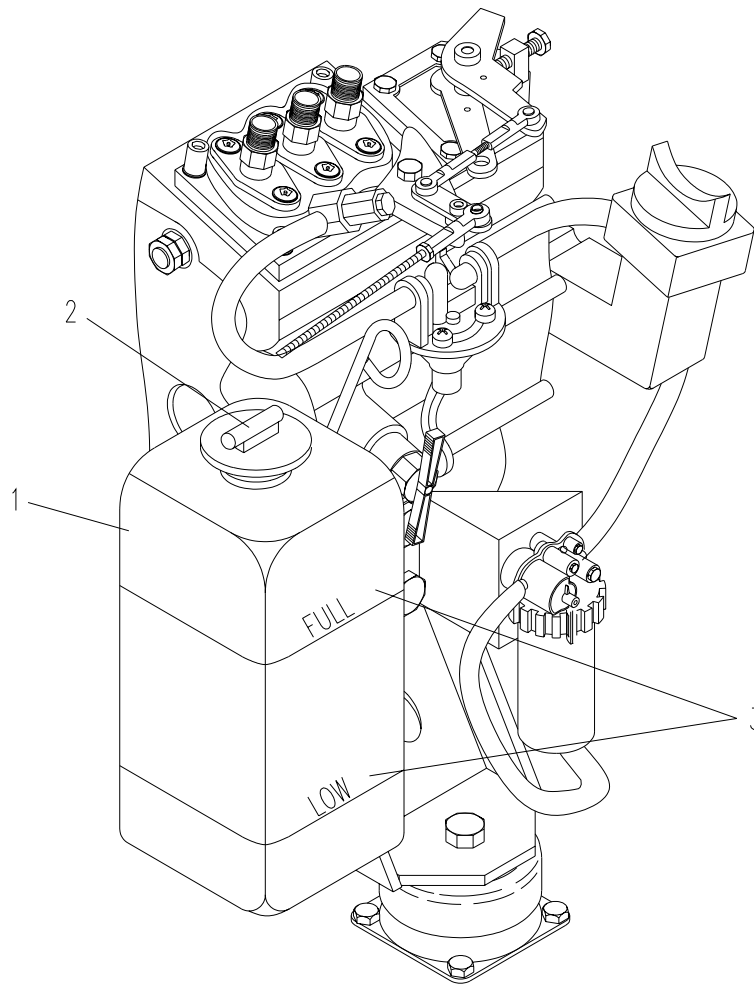

Figure 3-4. Radiator
- a. Check coolant level at radiator overflow tank (1, Figure 3-4). Coolant should be halfway between "FULL" and "LOW" marks (3).